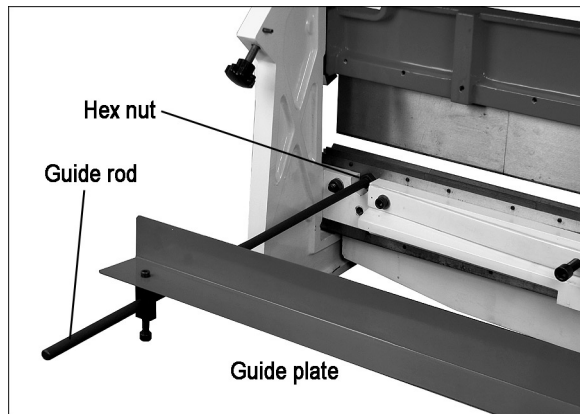
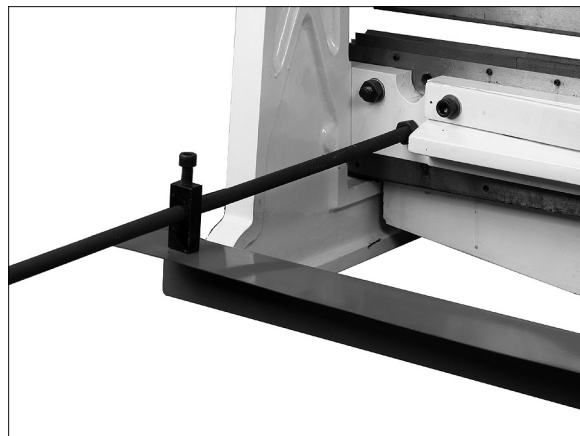

Figure 2
Figure 3
11. Install both *guide rods* into either the upper or lower set of threaded holes (Figure 2) and tighten the setting by rotating the *hex nut* against the cast base of the machine using a 19mm wrench.
NOTE: For brake operation, install the guide rods into the upper set of holes (Figure 2); for shear operation, install in the lower set of holes (Figure 3).
12. Install the *guide plate* as shown in Figures 2 or 3. Secure it to the rods by tightening the screws with a 5mm hex key.